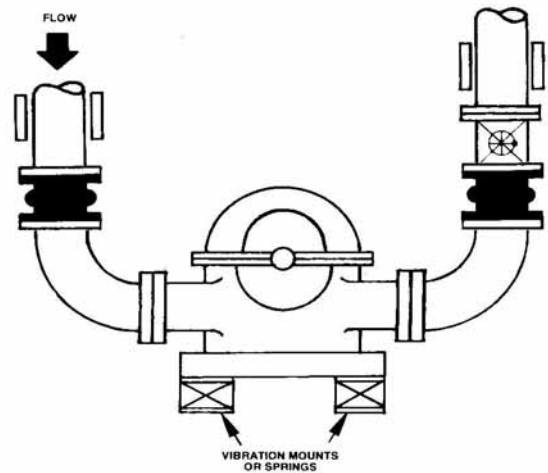

Fig 5
C.1. Vibration Mounts Under Foundation: Figure 5 shows a very common pump installation. Instead of being mounted on a solid foundation, the pump is supported off the floor on vibration mounts. There is nothing wrong with this type of installation, however, the supplier of the vibration mounts should be made aware of the fact that these mounts must be designed not only to support the weight of the pump with its motor and base, but must also absorb the vertical thrust that occurs in both the suction and discharge lines. It should also be noted that the thrust in the respective pipelines will exert a force on the inlet and outlet flanges of the pump and the pump manufacturer should be contacted to determine whether or not the pump casing is strong enough to withstand this force. If this is not done, it is very possible that this force can be large enough to crack the connecting flanges
C.1. Vibration Mounts Under Foundation: Figure 5 shows a very common pump installation. Instead of being mounted on a solid foundation, the pump is supported off the floor on vibration mounts. There is nothing wrong with this type of installation, however, the supplier of the vibration mounts should be made aware of the fact that these mounts must be designed not only to support the weight of the pump with its motor and base, but must also absorb the vertical thrust that occurs in both the suction and discharge lines. It should also be noted that the thrust in the respective pipelines will exert a force on the inlet and outlet flanges of the pump and the pump manufacturer should be contacted to determine whether or not the pump casing is strong enough to withstand this force. If this is not done, it is very possible that this force can be large enough to crack the connecting flanges.